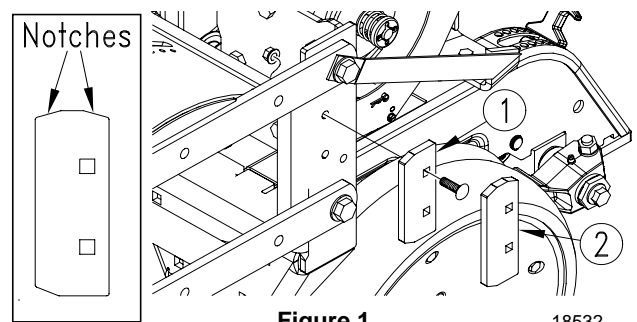
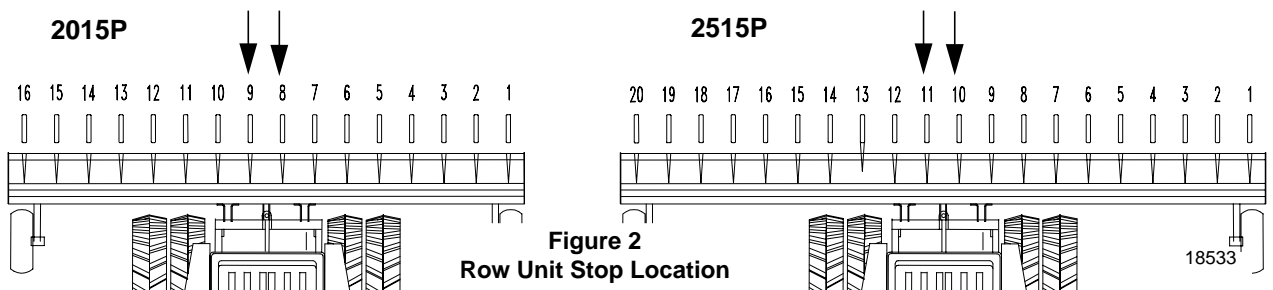

Figure 1
Figure 2
Remove the two stops (1), Figure 1, on each of the two center rows, shown in Figure 2. Replace the four stops with the new longer stops (2), Figure 1, included in your Lift Assist kit.
NOTE: The new stops (2) must be positioned with the two notches up, see inset in Figure 1.